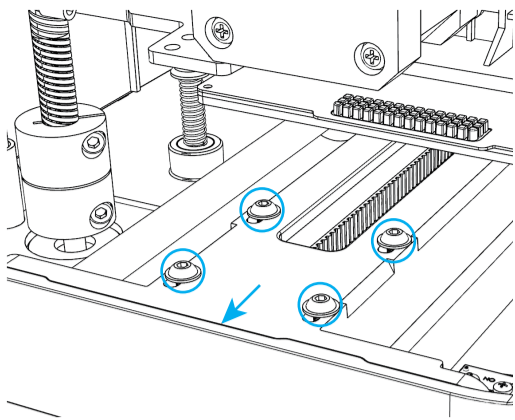

Figure 5
06. Check the belt. If the X-axis or Y-axis belt is too loose, you can adjust the belt tension by moving the X-axis motor or Y-axis motor. First loosen the screws that fix the motor, move the motor to tighten the belt, and then tighten the screws, as shown in Figures 5 and 6 below.